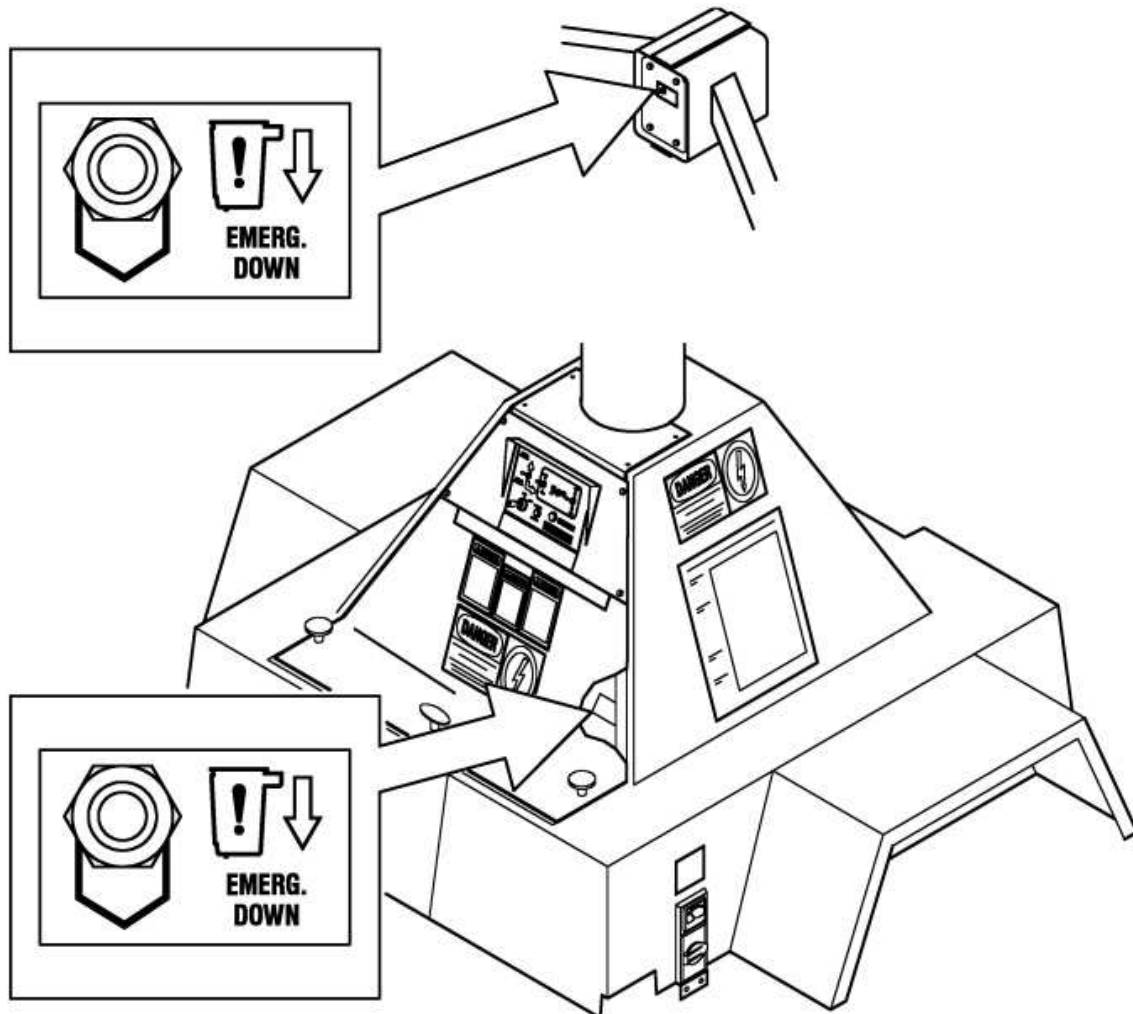

Figure 1-6
The Emergency Down Controls (See Figure 1-6) are located at the end of the upper boom (accessible from the platform), and inside the base assembly (behind the inspection cover) and are intended to be used as an emergency "down" in the event of power failure, or down solenoid valve failure. The emergency down switch lowers the upper boom by activating an electrical solenoid valve. The emergency down system is battery powered and operates independently of normal system power. To lower the upper boom, activate the switch in the direction of the arrow. When the problem is corrected, fully stroke the upper boom cylinder in both the up and down directions to purge any air from the system.
The hydraulic system on the 542 KB has a holding valve that prevents the upper cylinder from collapsing in the event of a hydraulic line failure. If a partial line failure is experienced (split, cracked, or badly leaking hose), where the holding valve does not lock, use the controls in short intervals to store booms. Should a complete line failure occur, the holding valve will lock and can only be released by repair of the line failure. In an emergency, the Emergency Down controls (see Figure 1-6) may also be used to bring the upper boom down.
1. The upper boom can be lowered by releasing the upper-cylinder fluid through one of the Emergency Down switches (See Figure 1-6).